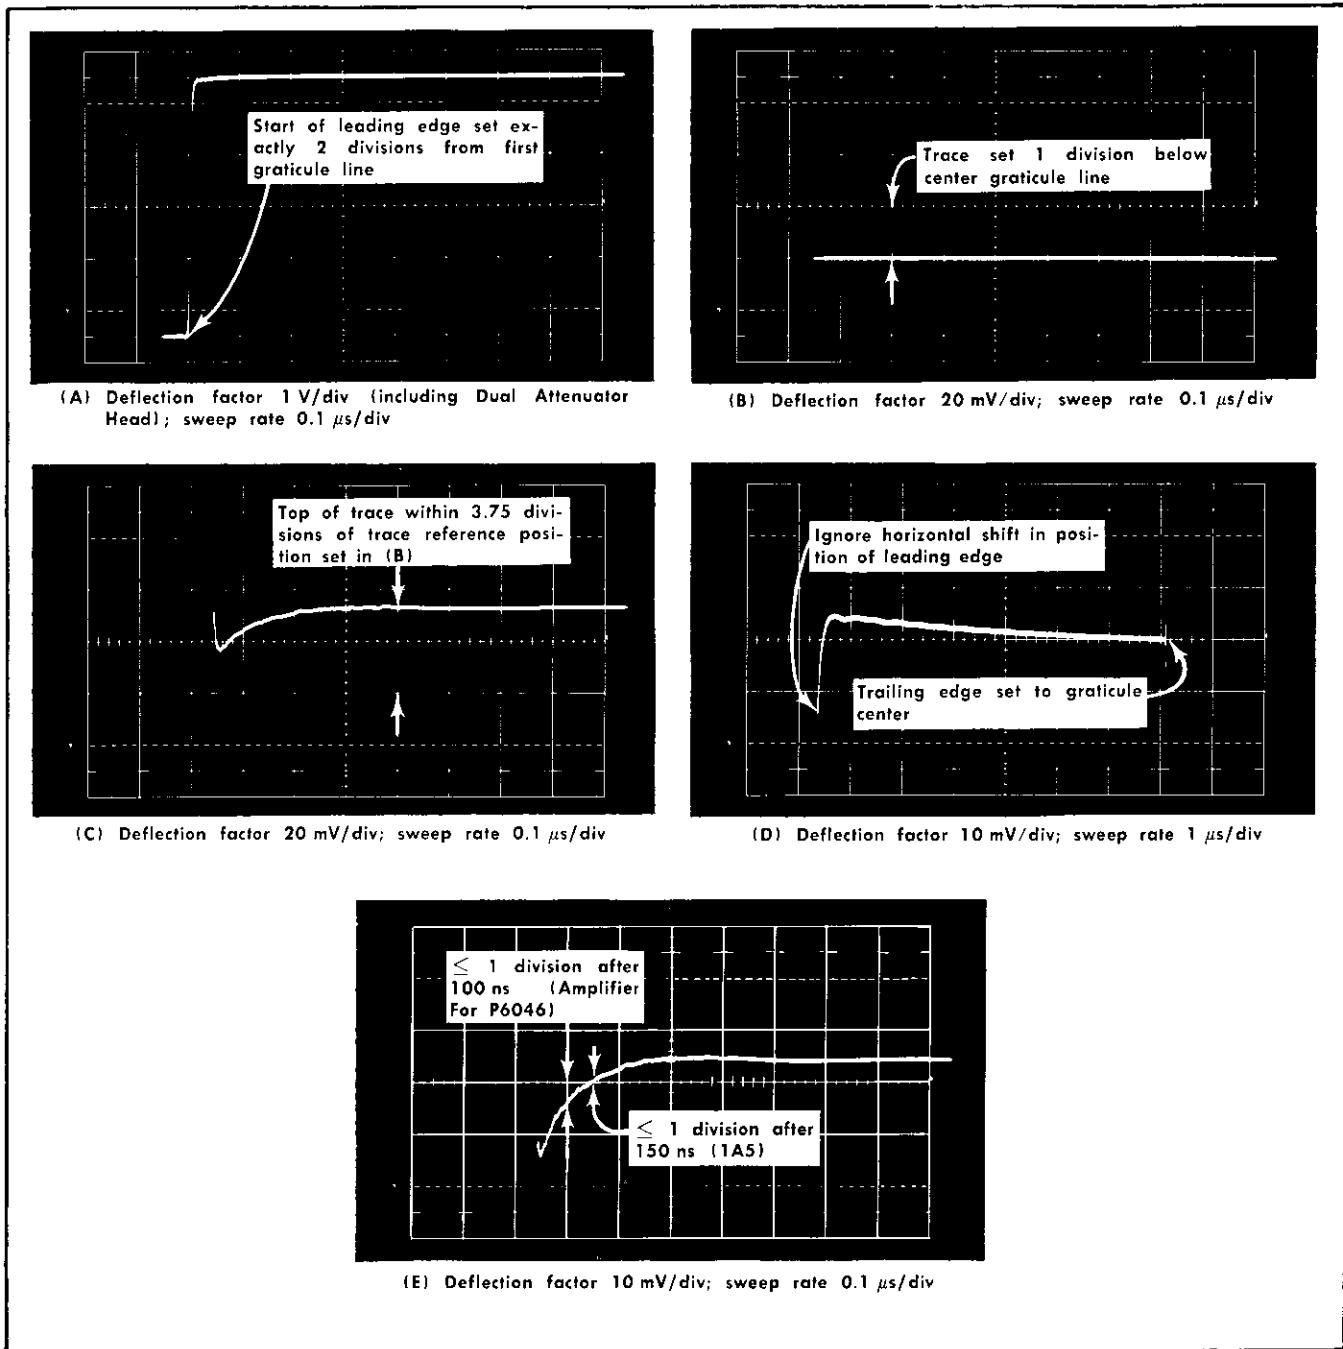

Fig. 5-3. DC shift and overdrive recovery waveforms, step 6.
- GR 2 $\times$  attenuator (item 16)
- GR 90° elbow (item 10) (optional)
- 5 ns GR cable (item 9)
- GR-to-BNC  $50\ \Omega$  termination (item 5)
h. Adjust the Square Wave Generator AMPLITUDE control to provide a 5 division square wave. Adjust the Oscilloscope TRIGGERING LEVEL as necessary to obtain a stable display. Using the horizontal position controls, set the leading edge of the square wave to start exactly 2 divisions from the first vertical graticule line as shown in Fig. 5-3(A). Do not move the horizontal position or triggering controls for the remainder of this step.
m. CHECK—DC shift due to overdrive. Connect the + Input tip to the Probe tip-to-GR adapter and associated equipment. (A special Ground tip should remain connected to the — Input tip.) Check the position of the top of the square wave 1 second after making the connection. 3.75 divisions or less trace shift should occur, for a trace shift of 1.5% or less of input signal. See Fig. 5-3 (B) and (C).
n. Switch to 10 mV vertical deflection factor. Switch the Time/Div control to 1  $\mu$ s. Using the vertical POSITION control, set the trailing edge of the top of the square wave to the vertical center of the graticule as in Fig. 5-3 (D).
o. (P6046 Probe/Type 1A5 only) CHECK—Over-drive recovery time. Switch the Time/Div Control back to .1  $\mu$ s and check the vertical separation between the trace and the graticule vertical center 5 divisions from the first vertical graticule line (300 ns after start of step function as shown in Fig. 5-3 E). At that point the trace should be within 1 division of graticule vertical center, and stay within for the remainder of the positive excursion of the square wave.
and graticule center 3 divisions from the first vertical graticule line (100 ns after start of step function). At that point the trace should be within 1 division of graticule vertical center, and stay within for the remainder of the positive excursion of the square wave. See Fig. 5-3 (E).